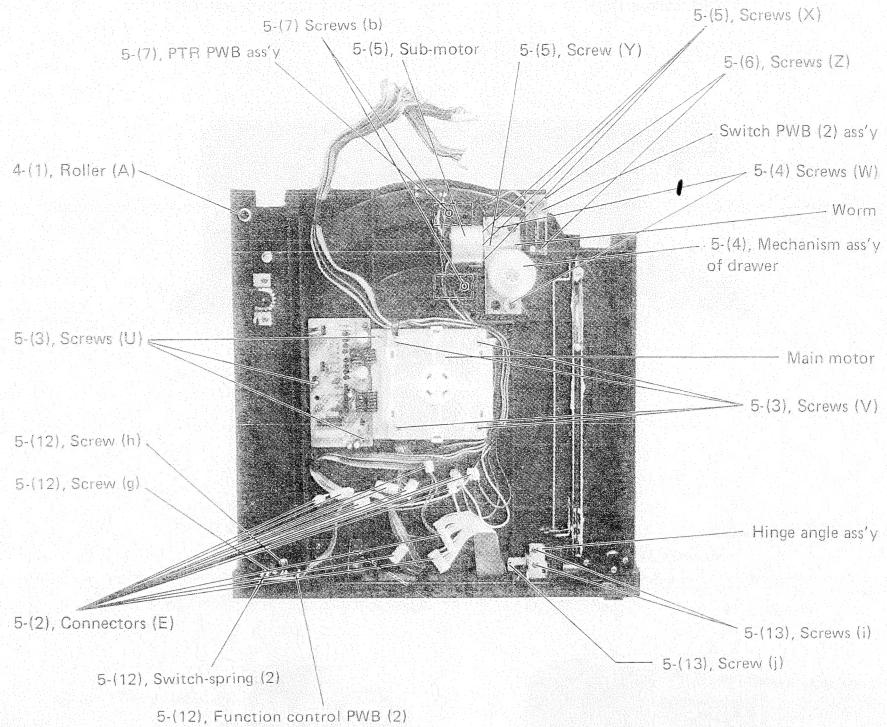

Fig. 13
- 2. Dismount 12 pcs. of connectors (E) from back side of the PWB ass'y so that the circuit PWB ass'y (1) can be dismantled. (See fig. 13)
- (5) Dismount sub-motor. (See fig. 13)
- 1. Remove 3 pcs. of screws (X).
- 2. Remove a set screw (Y) from worm so that the motor can be dismounted.
- (6) Dismount switch PWB (2) ass'y. (See fig. 13)
- (7) PTR PWB ass'y. (See fig. 13)
- (12) Switch-spring (2) and function control PWB (2) ass'y (See fig. 13)
- (13) Leaf switch ass'y (See fig. 13)